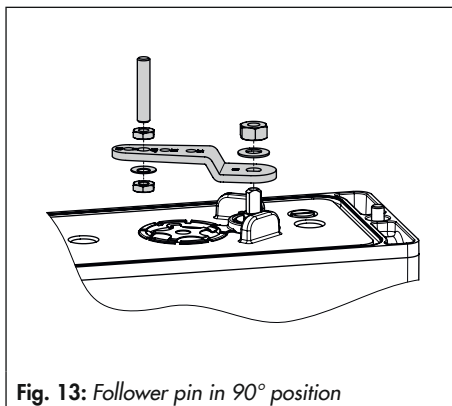

Fig. 13: Follower pin in 90° position
4. Insert and fasten the follower pin in the 90° position on the positioner's lever (see Fig. 13). Only use the longer follower pin included in the mounting kit.
5. Align the positioner on the adapter bracket (1) in such a way that the follower pin engages into the actuator's follower wheel (3).
6. Fasten the positioner onto the adapter bracket (4) using the fastening screws (6).
4. Insert and fasten the follower pin into the 90° position on the positioner's lever (see Fig. 13 on page 48).
7. Mount the Type 3710 Reversing Amplifier (7) together with the two guide bush-